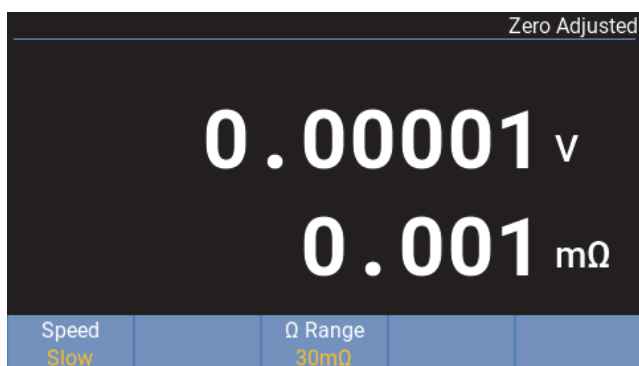

Figure 40. Zeroed
4. Once it succeeds, “**Zero Adjusted**” shows at the top right of the screen. As shown in Figure 40.